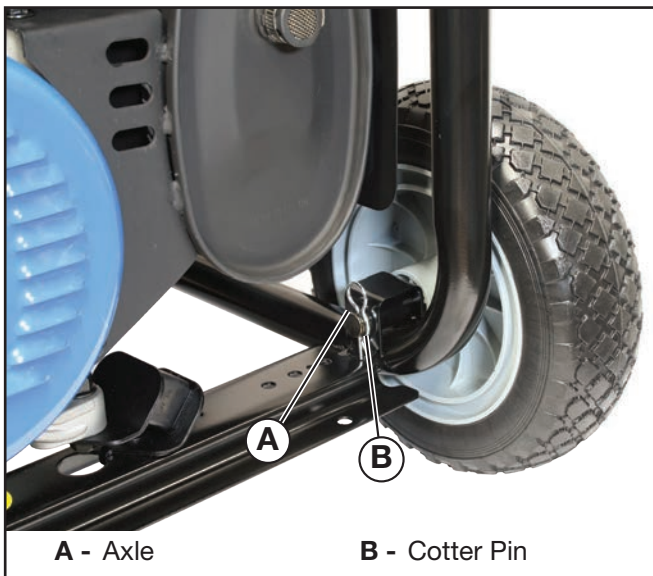

Figure 6 – Attaching Wheel to Frame
3. Insert the straight leg of one cotter pin through the hole in the end of the axle as shown in Figure 6.